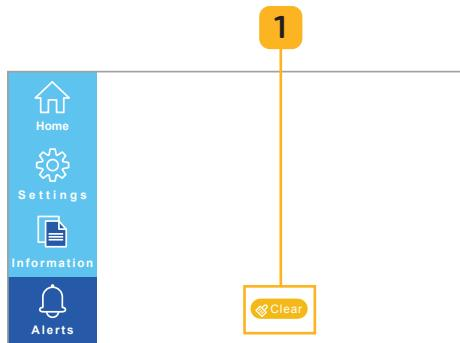

Fig. 6.36 Select power generated button
1. Click the **Clear** button to clear the current alerts (Fig. 6.36).